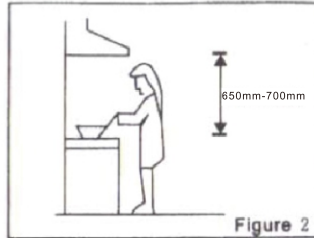

Figure 2
2. Ideal location for the installation (shown in figure 2)